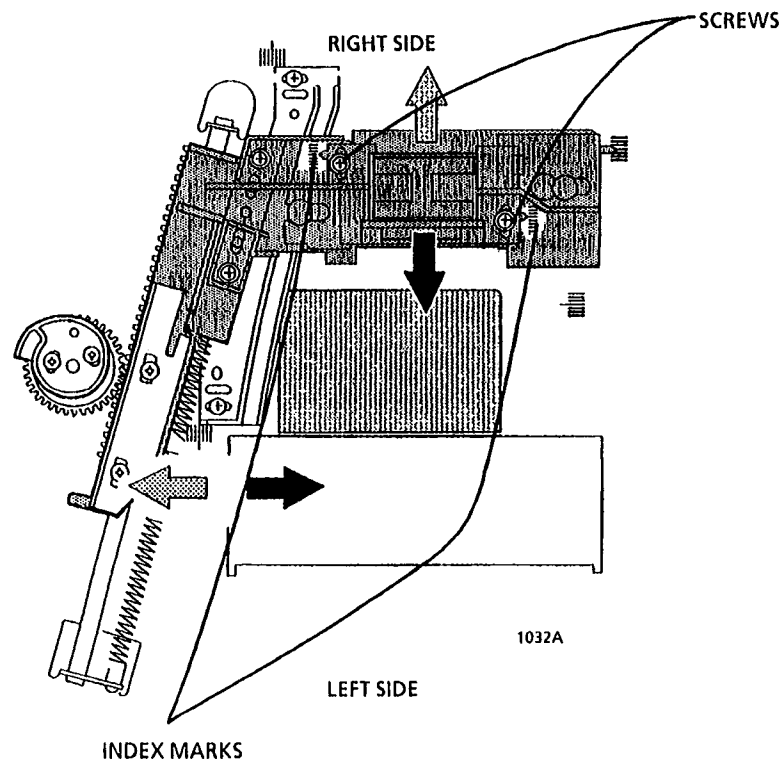

Figure 1. Adjusting the Magnification
5. (Figure 1): Tighten the two screws on the lens.